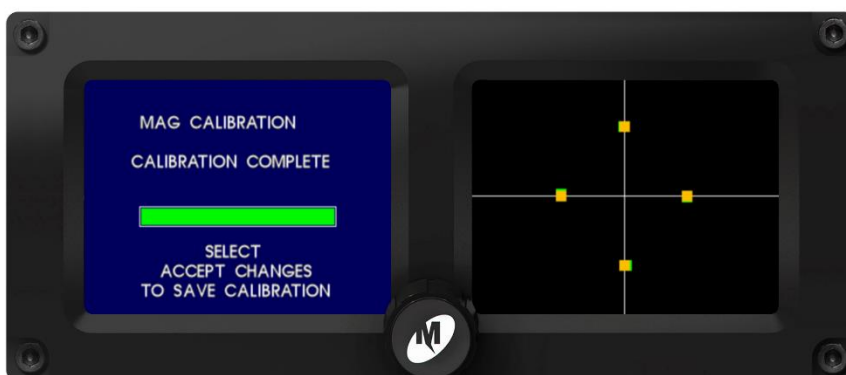

Figure 4.57
5. After calibration is successful, the yellow dots should line up on each axis. The green dots should be close or entirely covered by the yellow dots. (Figure 4.57)